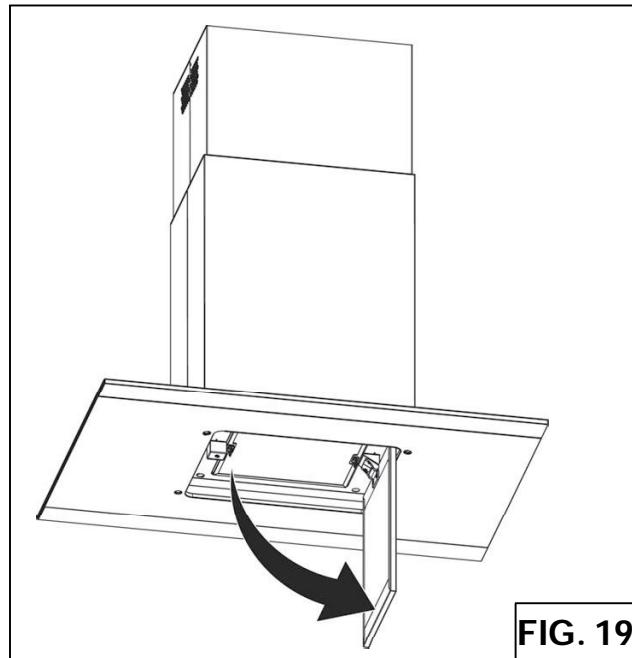

FIG. 19
1. To remove the GREASE filter, open the perimeter panel (Fig.19).